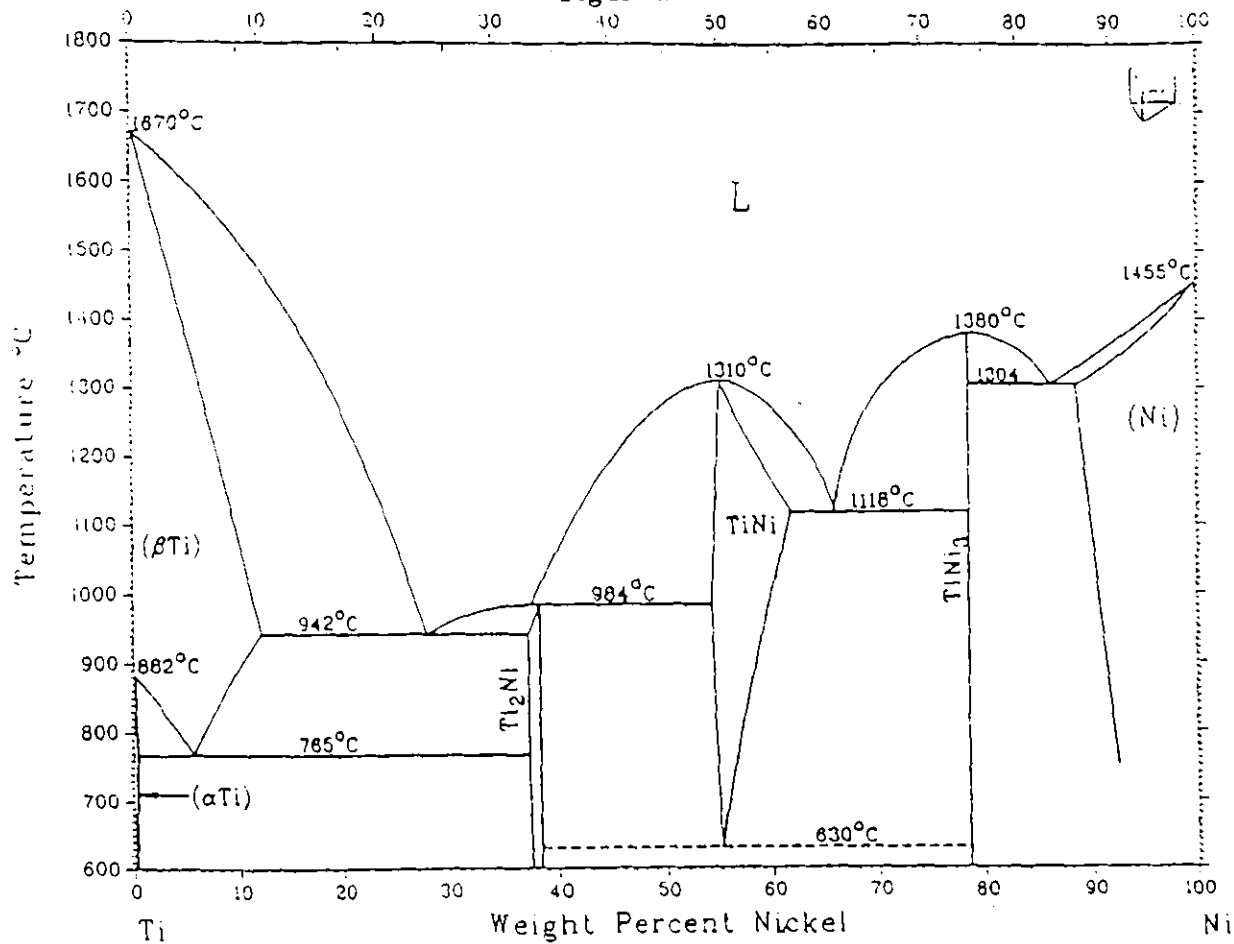

Figure 2
- i) Titanium components are being TLP-bonded using a 30 μm thick nickel interlayer. Using the accompanying Ti-Ni binary equilibrium diagram (Figure 2) describe: